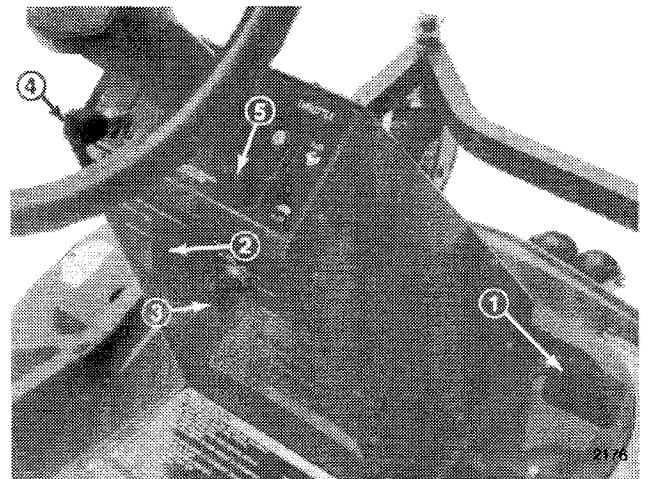

Figure 8
1. Move the throttle lever to “SLOW” (Fig. 8).
2. Turn the ignition key to “OFF” (Fig. 8).